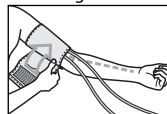

Fig. 4
2. Apply the cuff to your left upper arm so that the air tube is directed to your palm (fig. 4). If the measurement on your left arm is difficult, you may use your right arm. In this case remember that the readings may differ by 5-10 mmHg and even more.
8. Place stethoscope head so that it was located in depression, somewhat higher than elbow bend (Fig. 4). If You use the device with built-in stethoscope (for models LD-60 and LD-71A), to reach better auscultation of pulse on full hand, the cuff may be turned round the hand approximately by quarter of circle (60-90°) in such way that stethoscope head would be positioned on inner side of hand (more close to the body).